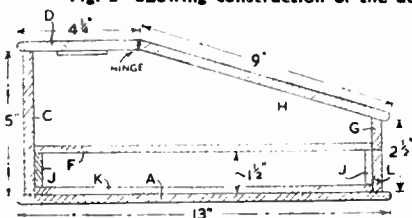

Fig. 4—End elevation
(C) is glued between the sides and measures 16½ins. by 5ins. by ¾in. Piece (D) will be 18ins. by 4½ins. by ¾in. The back and side edges will be rounded and the front edge chamfered to take the lid as shown in Fig. 4. A piece about 8ins. by 1in. can be cut from the centre to form a depression for the pencils and pens.
A backing piece of ¾in. or ½in. wood must be glued underneath. Two side rails to take the floor of the well are next glued to the sides (B), in the position shown in Fig. 2. These rails (E) measure 11½ins. by 1½ins. by ½in. The front rail (G) measures 15½ins. by 1½ins. by ¾in. and must be chamfered as shown in Fig. 4.
The position of the hinge is shown in Fig. 4, and although outside flap hinges are easier to fix, it will look better if butt hinges are used. These should be recessed slightly into piece (D) and the lid to allow for the thickness of the hinge.